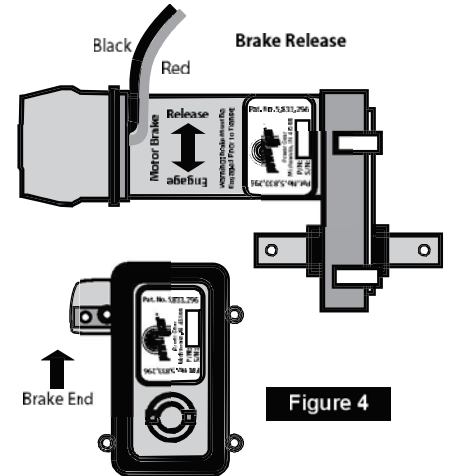

Figure 4
2. Locate the slide out motor (Figure 4). The motor is attached to the rail assembly inside the storage compartment under the slide out room. Some rooms may have multiple motors.